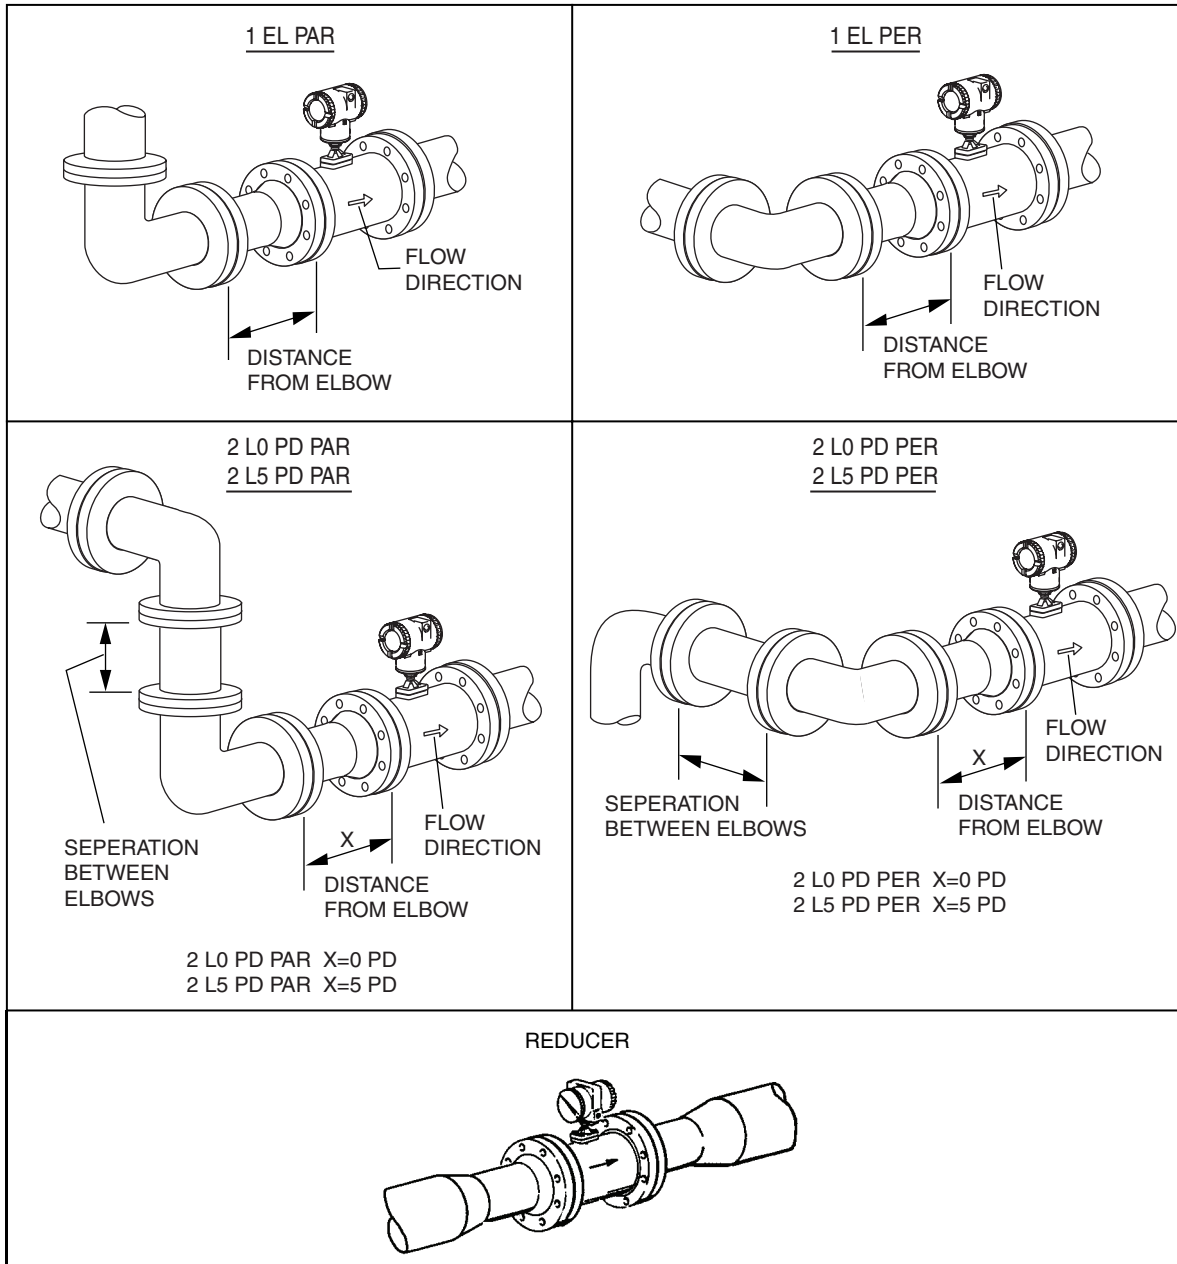

Figure 44. Piping Configurations
- ◆ In **4 Config**, select the upstream piping configuration from the following picklist (see Figure 44):